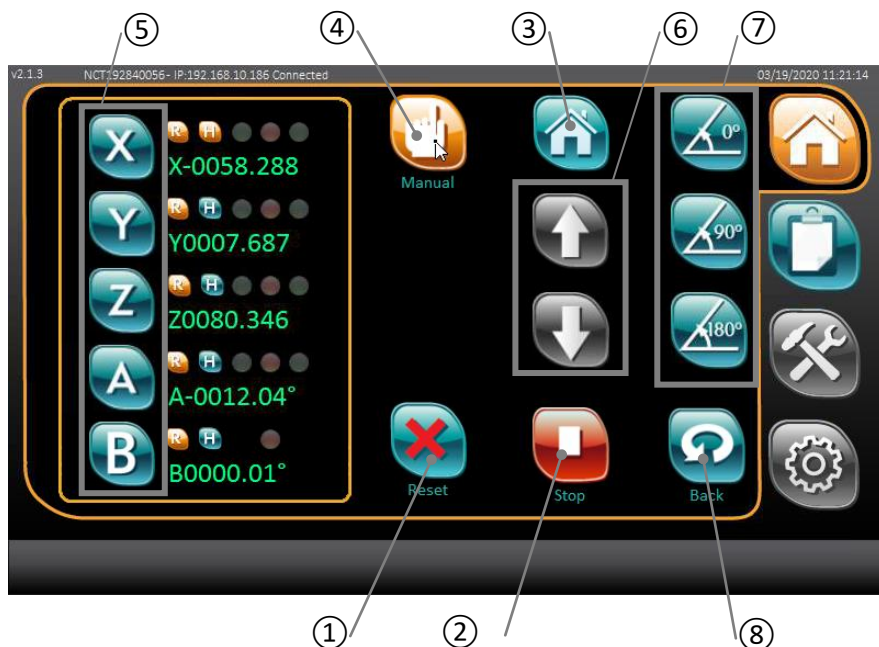

Figure 16 **Reference page**
2. Touch Stop button  [Figure 16 / 2] or Home button  [Figure 16 / 3].
3. To exit, please touch BACK button  [Figure 16 / 8].
1. Touch MANUAL button  [Figure 16 / 4].
2. Select the axis to be moved      [Figure 16 / 5].
3. Touch the necessary direction button [Figure 16 / 6] or angular button [Figure 16 / 9].
5. To exit, please touch BACK button  [Figure 16 / 8].